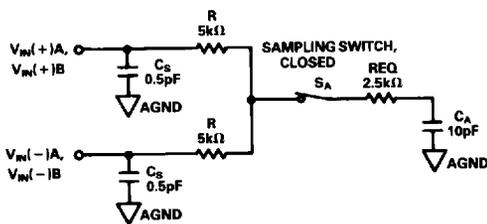
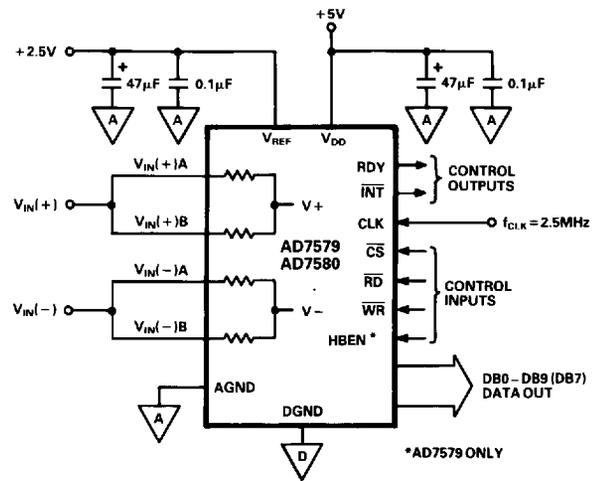

Figure 7. AD7579/AD7580 Equivalent Input Circuit During Sampling
Figure 12. Unipolar 2.5V Operational Diagram
Figure 7 shows an ac equivalent input circuit for the AD7579/AD7580 when used in the 2.5V Unipolar Mode of Figure 12. The ADC comparator is a sampled data comparator and the input circuitry for this is represented by S_A , R_{EQ} and C_A . R_{EQ} is a combination of the switch-on resistance and the input impedance of the comparator. When conversion starts, $V_{IN(+)}$ is sampled for at least $(2t_{CLK} + t_{WR} + 200ns)$ before the comparator goes into the hold mode. This means that the analog input has a minimum of $1.1\mu s$ ($f_{CLK} = 2.5MHz$, $t_{WR} = 100ns$) to settle before the comparator makes a decision. By using the typical values in Figure 7 for R , R_{EQ} and C_A , the input time constant is $50ns$. Settling to $\pm 1/4LSB$ in a 10-bit system takes 8.3 time constants or $415ns$ in this case. This means that $V_{IN(+)}$ has plenty of time to settle before the ADC comparison cycle begins. It is important to remember that any source resistance or source capacitance appearing at the input will also increase the settling time and this should be kept to a minimum in all cases.
With a 2.5MHz clock, the AD7579/AD7580 has a maximum conversion time of $18.5\mu s$. If $1\mu s$ is allowed for reading the data outputs, the maximum sampling rate for the device is 50kHz. This means that the maximum analog input frequency is 25kHz according to the Nyquist theory. The ADC input impedance in the Unipolar Configuration of Figure 12 is $10M\Omega$. A medium bandwidth op amp will drive this at 25kHz. When the input attenuators are used for signal conditioning, the input impedance is $10k\Omega$. The drive requirements on the amplifier will now be greater but any errors resulting will be gain errors only. Suitable op amps for driving the AD7579/AD7580 in any of the input configurations are the AD711, AD OP-27, AD544. These will deliver specified device performance over the input bandwidth.
Figure 12 shows the AD7579/AD7580 connected in the standard unipolar mode. Figure 13 and Table V show the ideal input/output
Table V. Input/Output Code Table for Figure 12
*DECOUPLING CIRCUITRY AND CONTROL CIRCUITRY AS IN FIGURE 12
In many cases, users of the AD7579/AD7580 will want to measure single-ended input voltages (i.e., ground referred signals). The circuits of Figures 12, 14 and 15 can be easily adapted to accept such signals. If $V_{IN(-)}$ in Figure 12 is tied to AGND, then the analog input range is 0V to +2.5V. By connecting $V_{IN(-)}$ of Figure 14 to AGND, the analog input range becomes 0V to +5V. Figure 15 can be modified as in Figure 16 to accept input voltages in the range -2.5V to +2.5V. Each of these circuits are special cases of the Differential Input circuits and are achieved by making the negative input to the internal comparator equal to AGND.